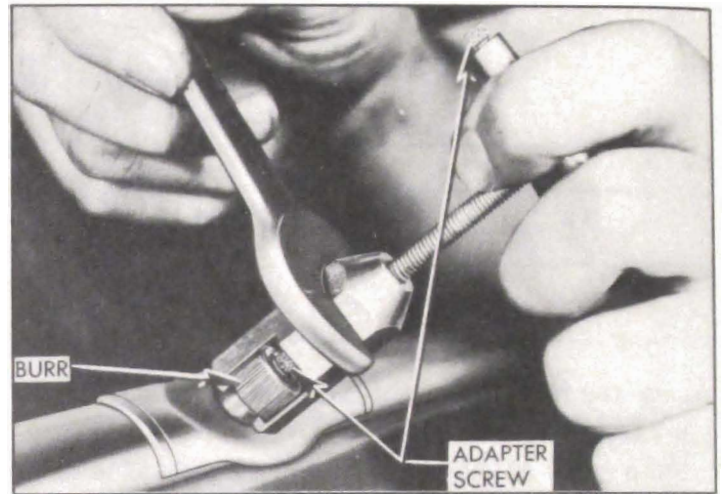

Figure 13-25—Pulling Driving Burr from Transmission Shaft
2. Remove adapter screw from handle of Burr Remover and Replace J 2682 and thread it into the end of transmission shaft, then install the tool so that clutch end of barrel grips the under side of driving burr. See figure 13-25.